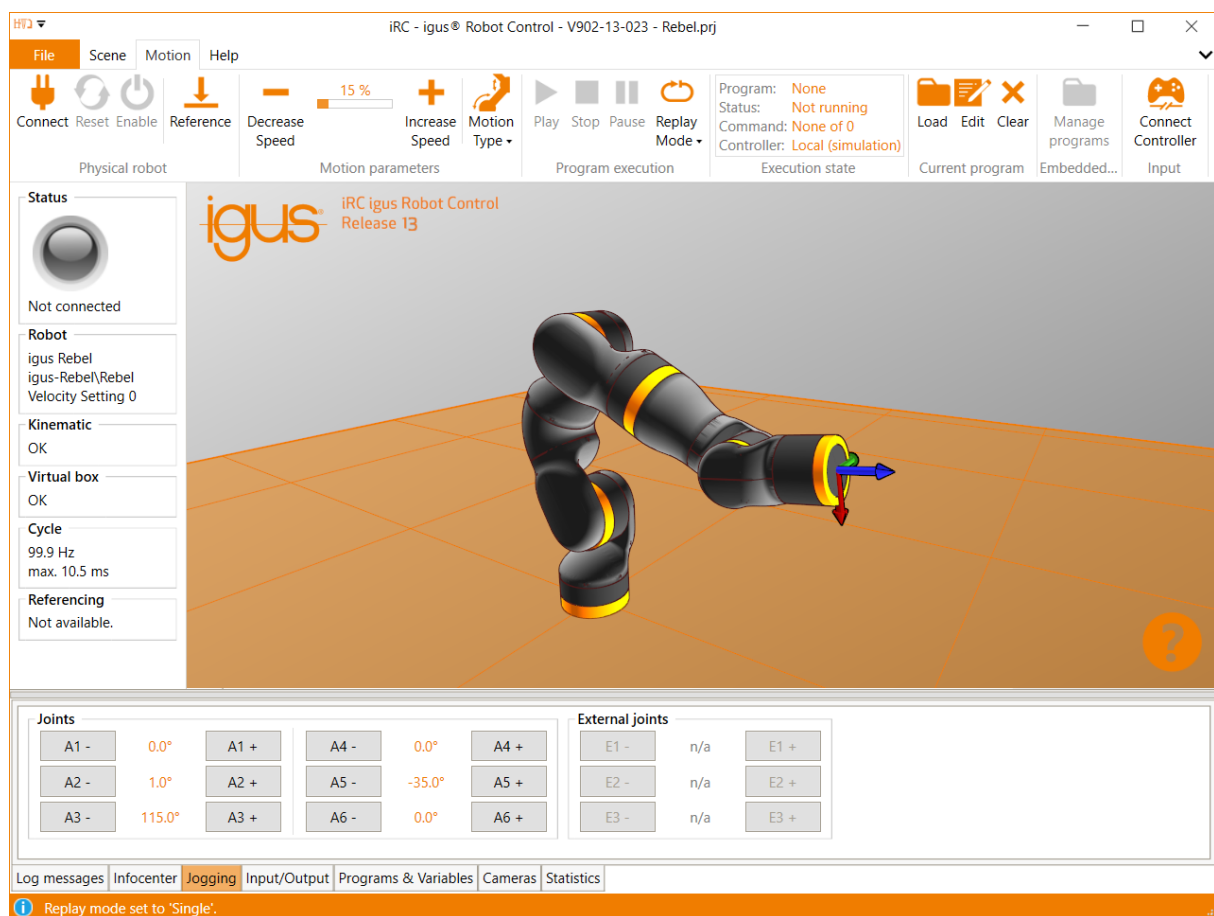

Figure 3: User interface of the iRC - igus Robot Control
3. Feed the robot cables through the large circular hole in the control cabinet and plug them into the stepper motor modules. Each motor with its associated reference sensor is connected to its stepper motor module via 4 connectors (see Fig. 3). All connectors are labeled and coded to support this process. The following cables each belong to a motor the affiliation between motor and cable set is also numbered on the connectors:
In the upper left corner, the three tabs "File", "Scene", "Motion" and "Help" provide access to the main functions. In the left corner, information about the current state of the physical robot is displayed. Additional functions like loading another project ("Open Project") or "Robot Referencing" can be found in the "File" tab (see Fig. 3).